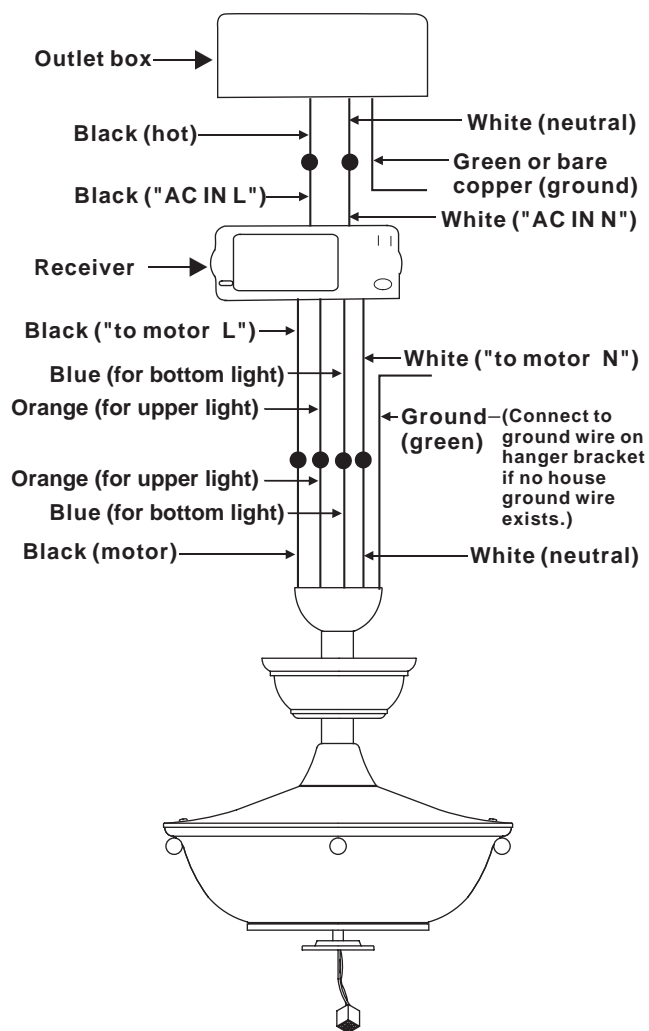

Figure 12
**Step 2.** (Fig. 12) Motor to Receiver Electrical Connections: Connect the Black wire from the fan to Black wire marked "TO MOTOR L". Connect the White wire from the fan to the White wire marked "TO MOTOR N" from the receiver. Connect the Blue wire from the fan to the Blue wire marked "For bottom Light" from the receiver. Connect the Orange wire from fan to the Orange wire from receiver marked "For Upper Light". Secure wire connections with the plastic wire nuts provided.
**Step 3.** (Fig. 12) Receiver to House Supply Wires Electrical Connections: Connect the black (hot) wire from the ceiling to the black wire marked "AC in L" from the receiver. Connect the white (neutral) wire from the ceiling to the white wire marked "AC in N" from the Receiver. Secure the wire connections with the plastic wire nuts provided.
**Step 4.** (Fig. 12) If your outlet box has a ground wire (green or bare copper) connect it to the fan ground wires; otherwise connect the hanging bracket ground wire to the mounting bracket. Secure the wire connection with a plastic nut provided. After connecting the wires, spread them apart so that the green and white wires are on one side of the outlet box and black and blue wires are on the other side. Carefully tuck the wire connections up into the outlet box.